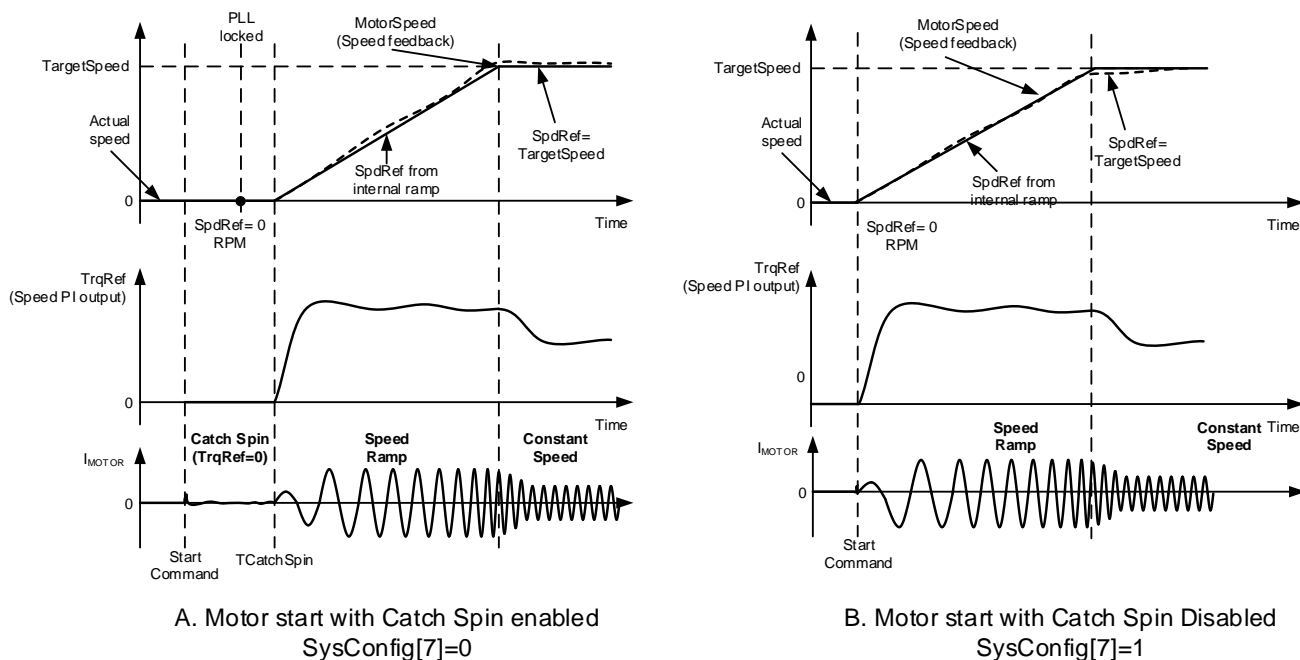

Figure 25: Zero Speed Catch Spin - Motor start with/without catch spin
If the motor is stationary, then the catch-spin sequence is termed as ‘Zero Speed Catch-Spin’. Figure 25(A) shows an example for ‘Zero Speed Catch – Spin’. In this example, at the start command, the motor is stationary. After the start command, ‘Zero Speed Catch Spin’ sequence begins. During the catch spin sequence, no motoring current is injected. After the catch spin time has elapsed, the motor speed at that instance (which is 0 RPM) becomes initial speed reference and starting point for speed ramp reference. The motor continues to accelerate, following the speed ramp reference to reach the set target speed.
If catch spin is disabled, normal speed control starts immediately after the start command, without waiting for PLL to be locked. As shown in Figure 25(B), after the start command, motoring current is injected directly as there is no catch spin sequence. The motor starts accelerating, following the speed ramp reference to reach the set target speed.